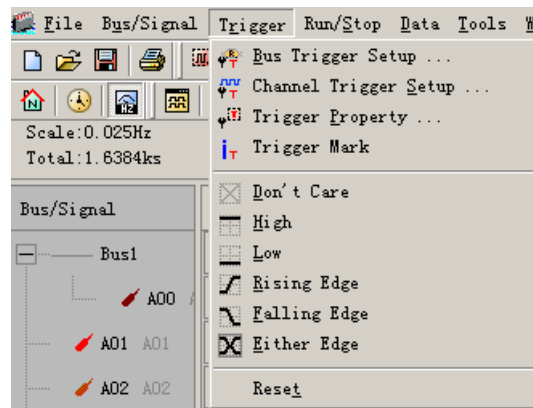

Fig 4-27 – Trigger Menu
3. Click Trigger on the menu bar and choose a trigger edge from the list of triggers as shown in Fig 4-27.